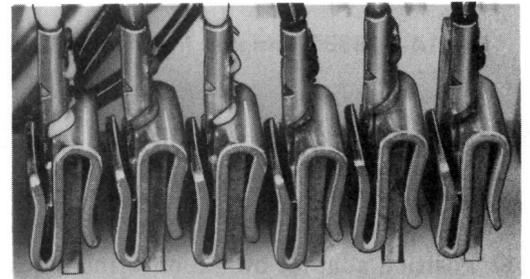

Fig. 12—Typical Installation of 161A Adapter on 66E-Type Connecting Block
4.02 Position the adapter over the terminal and press it onto the terminal as far as possible. Insert the spade tip and seat it firmly in the adapter. The adapter and spade tip installed is shown in Fig. 12.
that possible shorting between connectors is avoided. Proper and improper orientation of the adapters is shown in Fig. 12. On the 66B connecting blocks with 3-terminal connectors, adapters should not be installed adjacent to each other on the middle two terminals due to the possibility of shorting the two individual 3-terminal sections of the row.